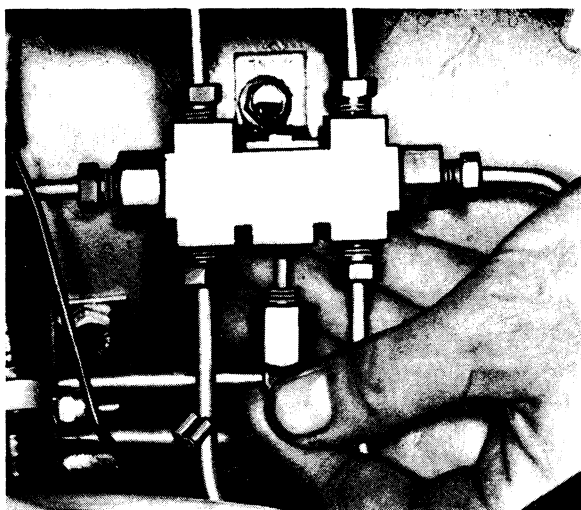

Fig. 5-55. Removing warning switch
- Disconnect the electric cable and screw out the warning switch (Fig. 5-55) so that the pistons return to normal position.